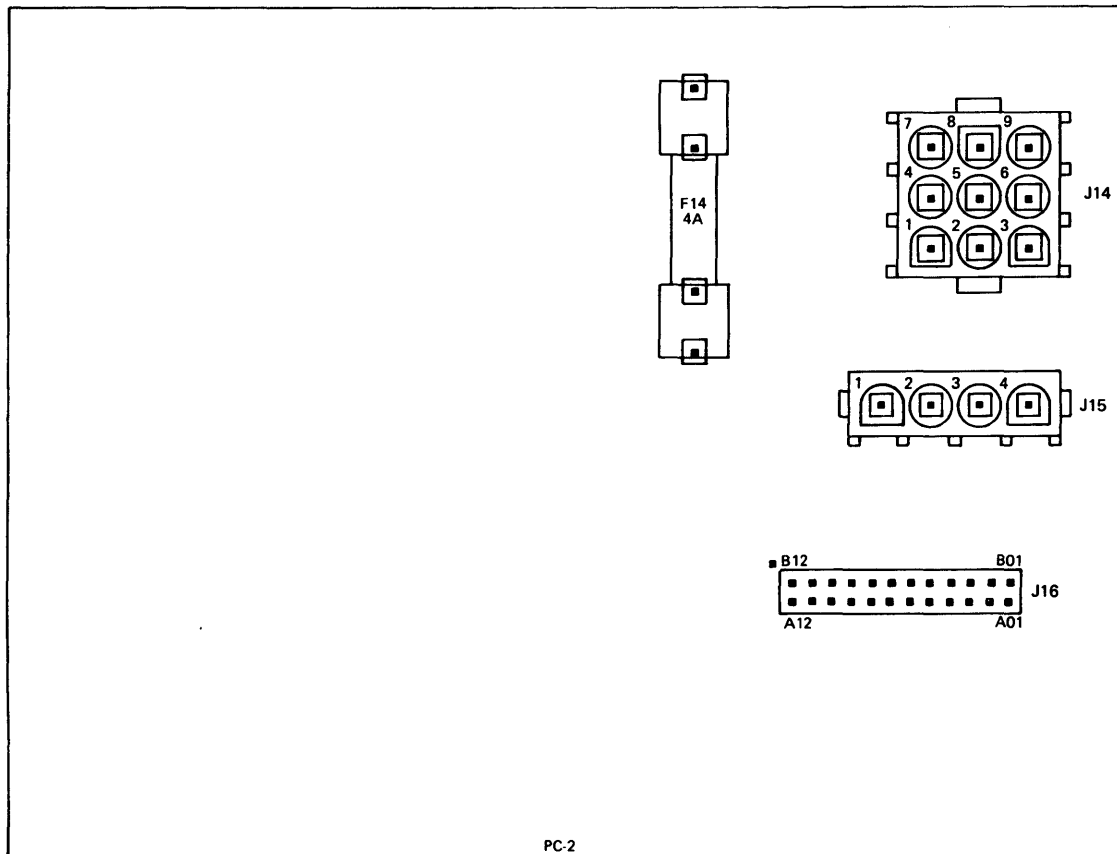

Figure PA663-1. PC-2 Connector Locations
1. Use the following chart and Figure PA663-1 to check the dc input voltages on the PC-2 card.